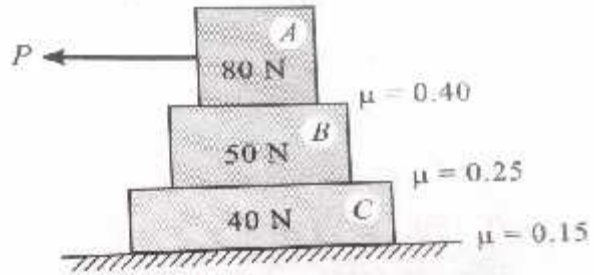

Fig. 6
6. Three blocks are placed on the surface one above the other as shown in fig:6. The coefficient of friction between the different blocks and surface is also shown in the fig. Determine the maximum value of force P that can be applied before any slipping takes place.